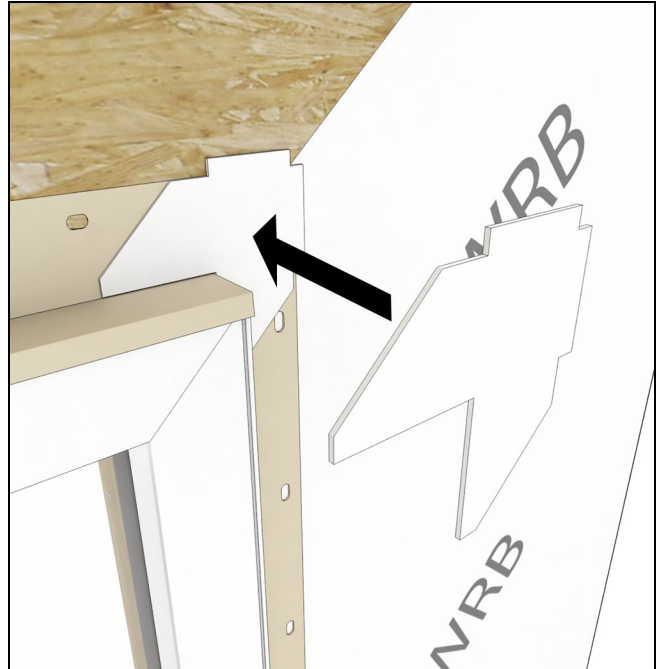

Figure 58
2. Apply nail fin corner gaskets to each corner of the nail fin. Follow the instructions sent with the gaskets. See Figure 58.